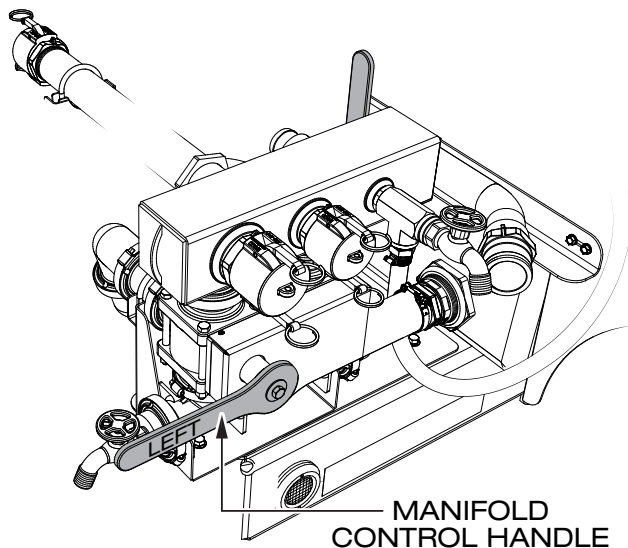

Figure 28. Manifold Control Handle Position
8. Rotate the manifold control handle to the 9 o'clock position (horizontal/left) and leave it there (Figure 28).